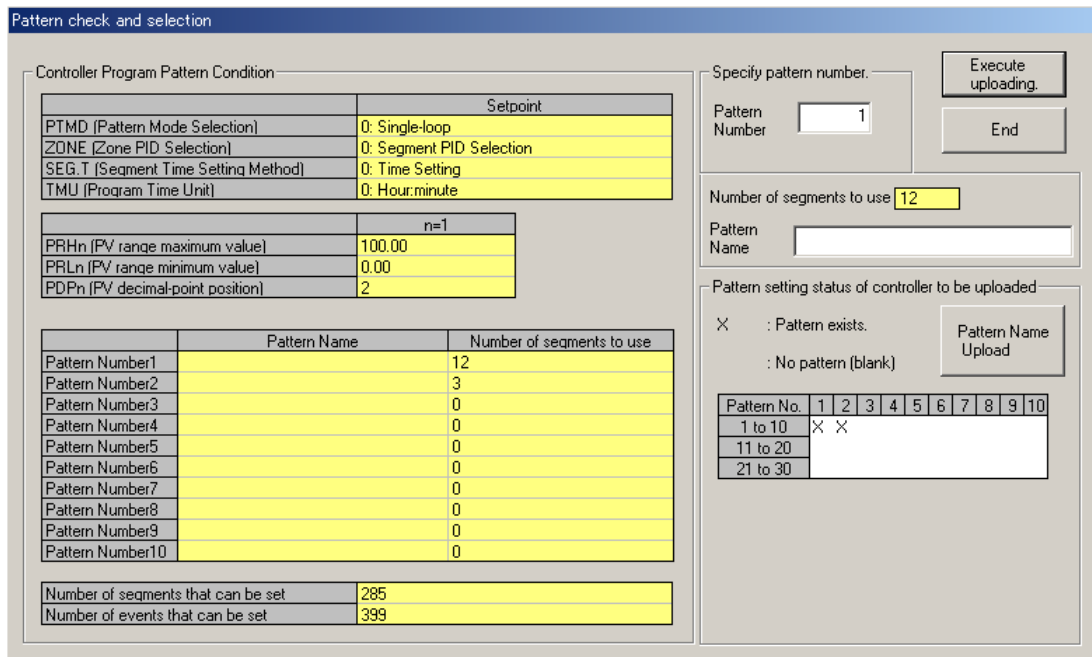

Figure 12.1.2 Pattern Check and Selection Dialog Box (Upload)
- (2) Click **Front communication**.
- (3) From the **Serial Port** list, select a communication port of the personal computer (COM1 to COM16).
- (4) Connect the controller to the personal computer, and then click **OK**.
- (5) When communication is established, the Pattern Check and Selection dialog box (Figure 12.1.2) appears, showing the program pattern setting status of the controller.
- (2) Click **Terminal communication**. (This means to use the communication terminals at the rear of the controller.)
- (3) Click **Serial communication**.
- (4) From the **Serial port** list, select the communication port of the personal computer from **COM1** to **COM16**.
- (5) Set the RS485 communication conditions:
- (6) Connect the controller to the personal computer, and then click **OK**.
- (7) When communication is established, the Pattern Check and Selection dialog box (Figure 12.1.2) appears, showing the program pattern setting status of the controller.
- (8) Enter the pattern number in the **Pattern Number** box and click **Execute uploading**.
- (9) When uploading is complete, a message appears to notify you it is complete.
- (3) Click **Ethernet communication**.
- (4) Set the target controller's IP address and RS485 communication address in the **IP Address** text box.
- (5) Set the target controller's port number in the **Port No.** text box. The port number can be set in decimal or hexadecimal.
- (6) Connect the controller to the personal computer, and then click **Execute**.